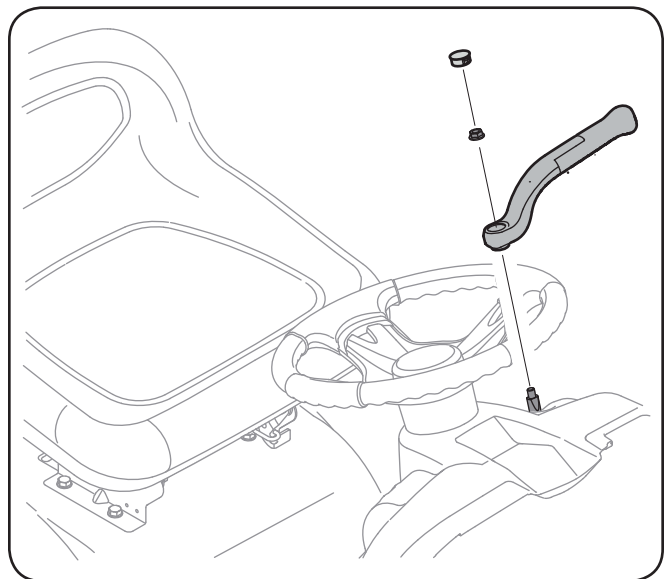

Figure 3-5
1. Position the PTO lever on the PTO shaft and secure with the hex lock nut. See Fig. 3-5.